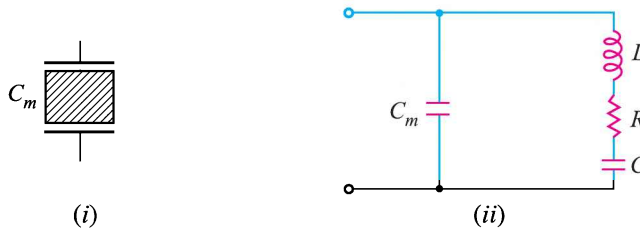

Fig. 14.21
- (i) When the crystal is not vibrating, it is equivalent to capacitance C_m because it has two metal plates separated by a dielectric [See Fig. 14.21 (i)]. This capacitance is known as *mounting capacitance*.
- (ii) When a crystal vibrates, *it is equivalent to $R - L - C$ series circuit. Therefore, the equivalent circuit of a vibrating crystal is $R - L - C$ series circuit shunted by the mounting capacitance C_m as shown in Fig. 14.21 (ii).